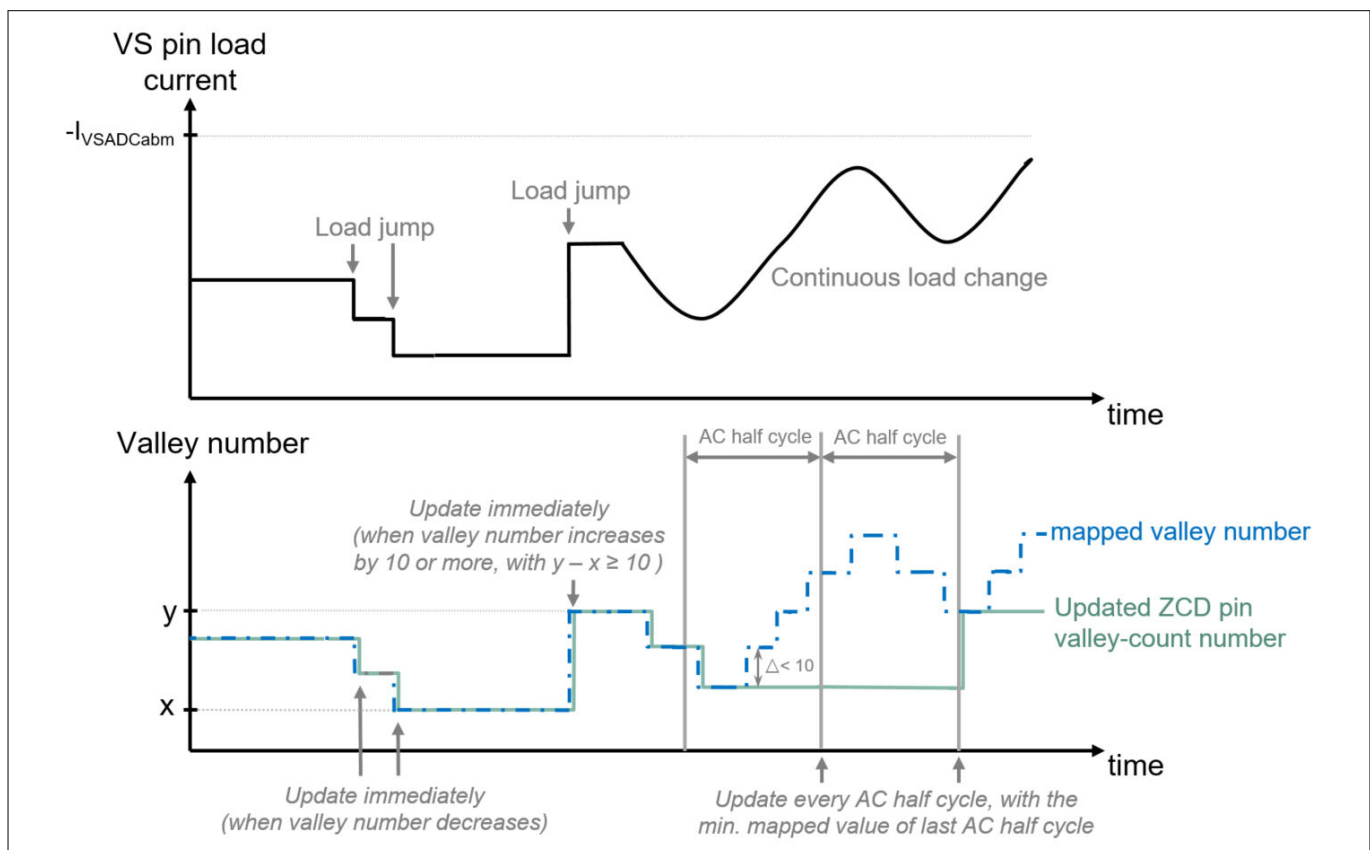

Figure 17 Illustrative example of the QRM valley selection hysteresis mechanism
as shown in Figure 17. During each AC half cycle, the controller adjusts the on-time to stay in the selected valley number. In this way, the number of valley jumps is limited to a minimum.
2. When a load jump happens, if the valley number has to be decreased, it happens immediately. For the case of valley number increase, if the load jump results to a valley number increase by 10 or more, it happens immediately. Otherwise, the change happens only at the start of the next AC half cycle, as shown in Figure 17.